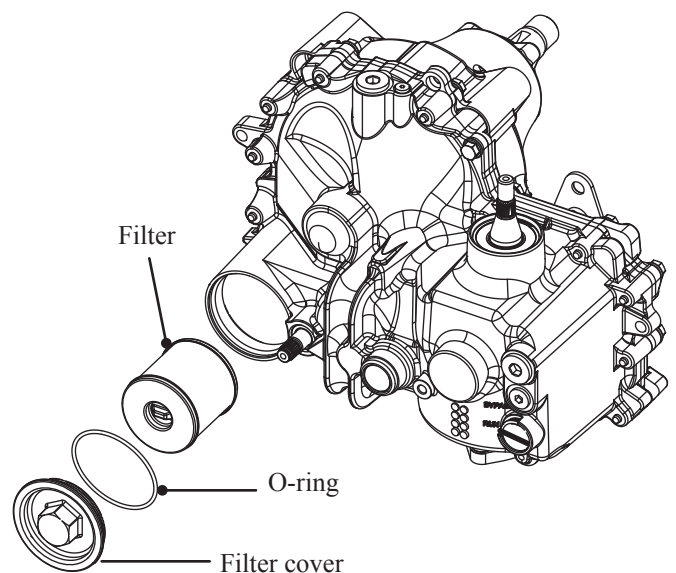

Figure 3a, Filter Components
3. Install a new filter (Hydro-Gear part number 71943 or equivalent) and a new O-ring onto the filter cover and install the filter cover. See Figure 3a. See page 15 for torque specifications.